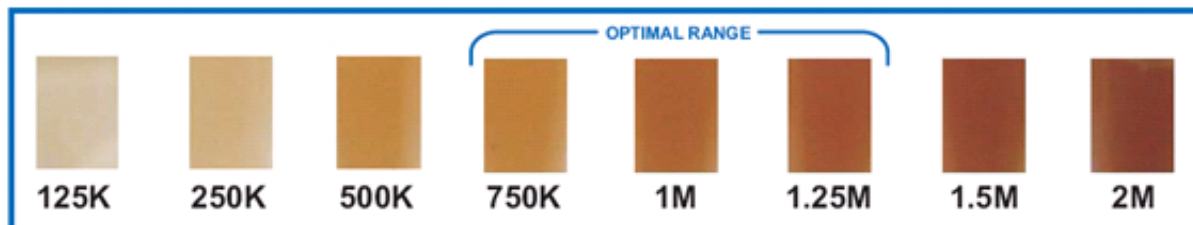
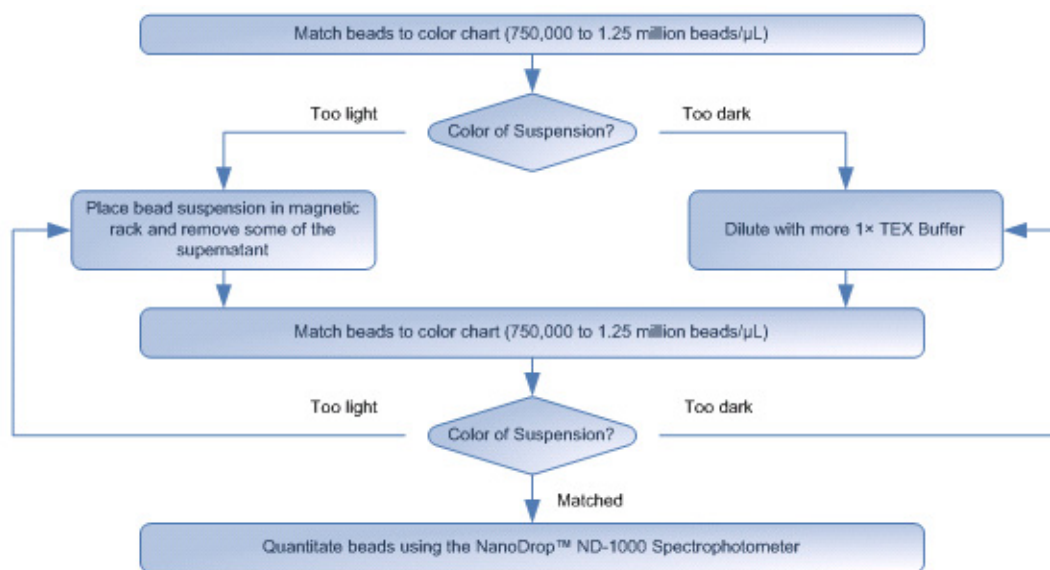

Figure 35 The SOLiD™ Bead Concentration Chart. For best results, use the SOLiD™ Bead Concentration Chart (PN 4415131), supplied separately.
Figure 36 The SOLiD™ Bead Concentration Chart workflow.
4. Use the SOLiD™ Bead Concentration Chart (Applied Biosystems PN 4415131) to estimate the bead concentration of the beads (see Figure 35 on page 74).
- Adjust the volume of beads so that the color of the bead solution matches a color in the optimal range (750,000 beads/ μ L to 1.25 million beads/ μ L; see Figure 35 and Figure 36).